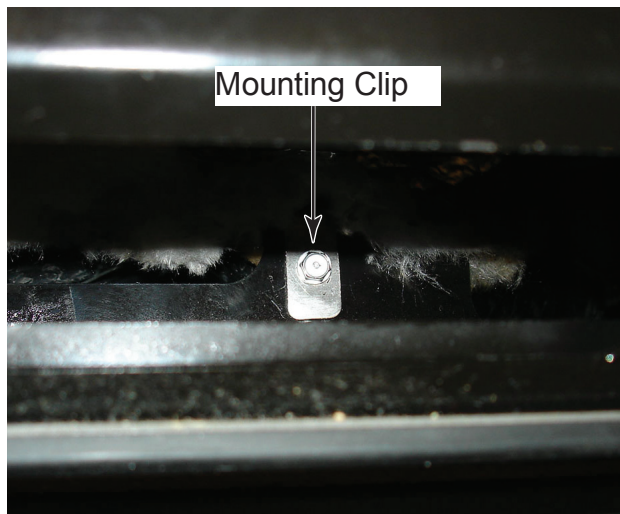
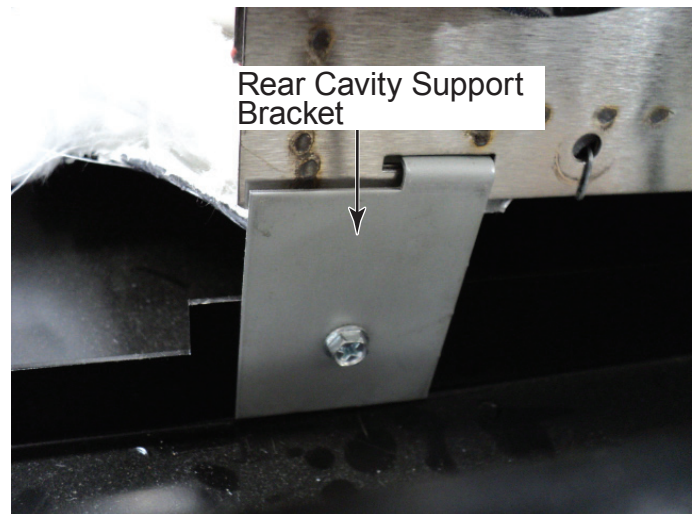

Figure 11
Figure 12
- g) Remove cavity to base mounting clips or rear cavity support brackets LH & RH from base of oven by accessing mounting screw thru air inlet on side of base - see figure 11 or figure 12.
- e) Install both of the rear cavity support brackets- see figure 12.